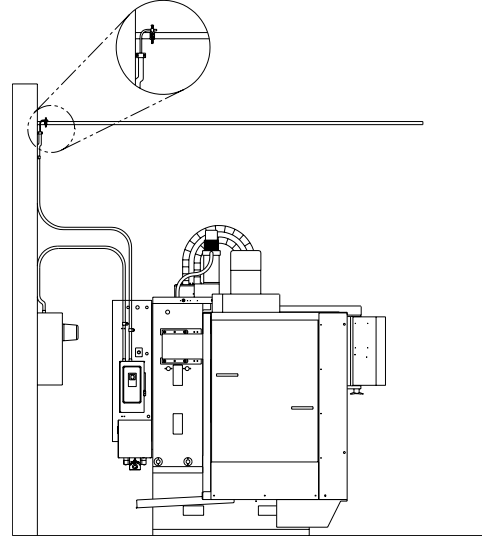

Figure 2-5: Bond Grounding Conductor to Copper Cold Water Pipe
4. One end of the supplemental grounding conductor shall be attached to the VMC's ground bus. The other end shall be effectively bonded to a copper cold water pipe that is in direct contact with the earth for 10 feet or more (see figure 2-5).